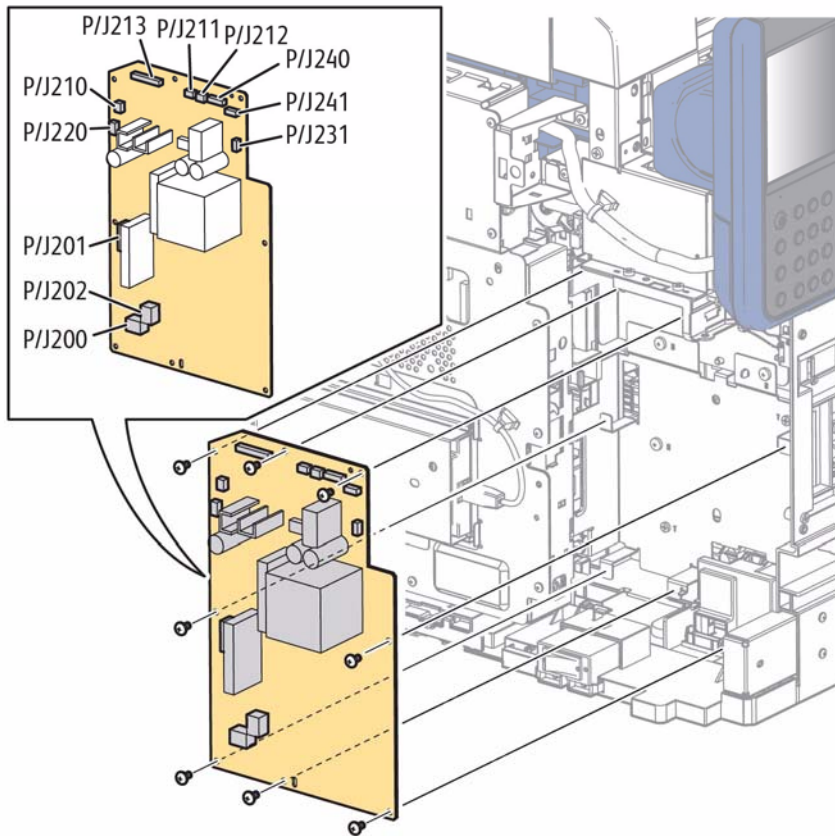

Figure 1 Remove the LVPS
6. Refer to Figure 1 to locate and disconnect all connections and remove 8 screws (silver, M3, 6mm) to remove the LVPS.